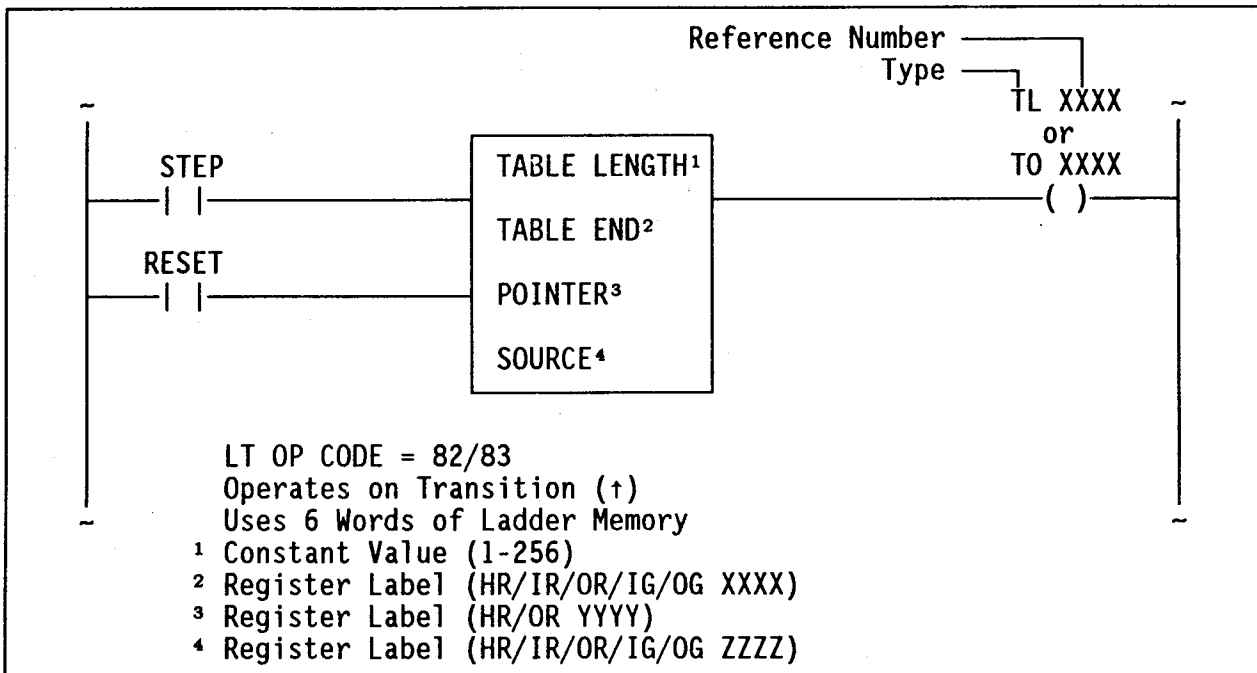

Figure 1. Table Lookup (TL)/Table Lookup Ordered (TO)
The Table Lookup (TL) and Table Lookup Ordered (TO) functions are used to search a table of registers and locate the position of the register whose contents are greater than or equal to the source register contents. The TL function is used to find the registers whose contents are equal to the source destination, and the TO function is used to find the registers whose contents are greater than or equal to the source destination. TL/TO function symbology is shown in Figure 1.